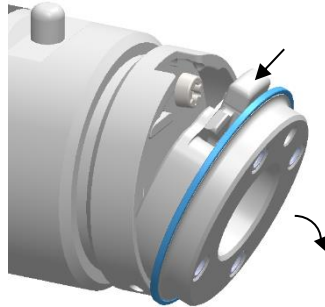

Figure 1.6
- 2) While holding in the button down, pull the tool-part away from the robot-part in a pivoting motion (*figure 1.6*)